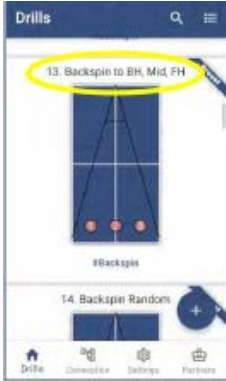

Figure 3-60
1. From the Main Drills screen, scroll as necessary, and choose the Drill named [13. Backspin to BH, Mid, FH], by touching the Ping Pong table under the Drill name. (Figure 3-60)